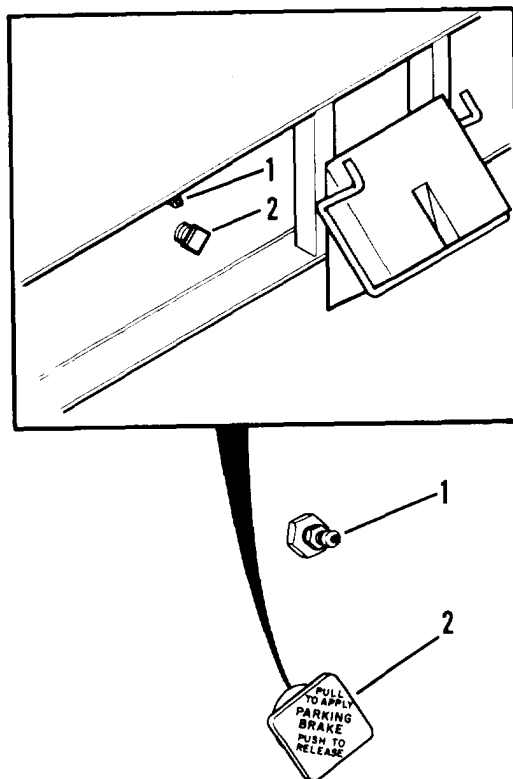

Figure 2-33. Parking brake
a. Pull parking brake handle (2, figure 2-33), located on left side of semitrailer under the air charging valve (1), to apply brake system.
b. To release parking brake, push handle (2) in.